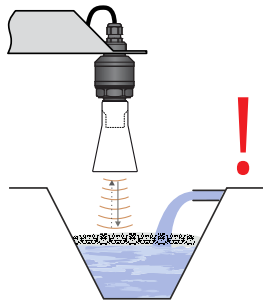

Fig. 9: Thick foam on the level
- **Foam** may be produced on the level of the measured liquid during filling, mixing and other processes. The thick foam significantly absorbs the ultrasound signal and may cause malfunction of the device (Fig. 9). In those cases it is necessary to set "SENSITIVITY" to the value "HIGH" and test the level meter in advance, or contact the manufacturer. In case of a thin layer of foam, it is also possible to use directional horn for improving receipt of the reflected echo.